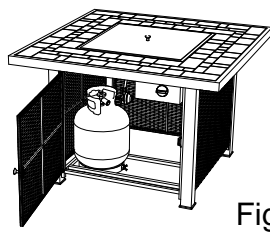

Fig. 5
- 2- Put the cylinder into the cylinder rack. See Fig 5.